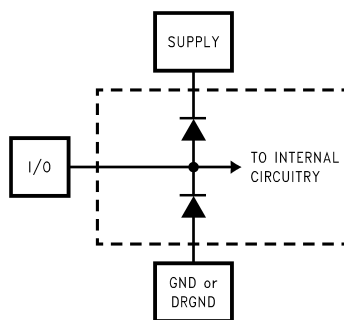

Figure 2.
- (1) The inputs are protected as shown below. Input voltage magnitudes above V_A or below GND will not damage this device, provided current is limited see Note 4 in the Absolute Maximum Ratings table. However, errors in the A/D conversion can occur if the input goes above V_A or below GND by more than 100 mV. As an example, if V_A is +3.3V, the full-scale input voltage must be $\leq +3.4V$ to ensure accurate conversions (see Figure 2).
- (2) To guarantee accuracy, it is required that $|V_A - V_D| \leq 100$ mV and separate bypass capacitors are used at each power supply pin.
- (3) With the test condition for $V_{REF} = +1.0V$ (2V_{P-P} differential input), the 12-bit LSB is 488 μV .
- (4) Typical figures are at $T_J = 25^\circ C$, and represent most likely parametric norms. Test limits are guaranteed to AOQL (Average Outgoing Quality Level).
- (5) I_{DR} is the current consumed by the switching of the output drivers and is primarily determined by load capacitance on the output pins, the supply voltage, V_{DR} , and the rate at which the outputs are switching (which is signal dependent). $I_{DR} = V_{DR}(C_0 \times f_0 + C_1 \times f_1 + \dots C_{11} \times f_{11})$ where V_{DR} is the output driver power supply voltage, C_n is total capacitance on the output pin, and f_n is the average frequency at which that pin is toggling.
- (6) Excludes I_{DR} . See⁽⁵⁾
- (4) Timing specifications are tested at TTL logic levels, $V_{IL} = 0.4V$ for a falling edge and $V_{IH} = 2.4V$ for a rising edge.
- (5) Typical figures are at $T_J = 25^\circ C$, and represent most likely parametric norms. Test limits are guaranteed to AOQL (Average Outgoing Quality Level).